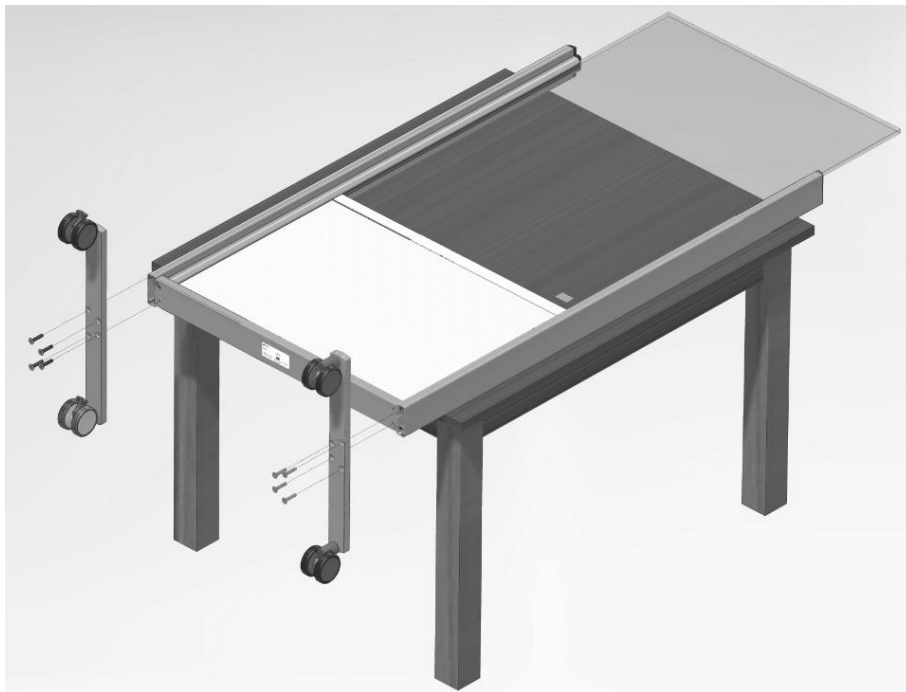

Figure 2.1. Shield Assembly Placed on Flat Surface for Assembly.
2. Lay the shield sub-assembly on a flat surface (e.g., a table) with the bottom extending over the edge (see Figure 2.1).